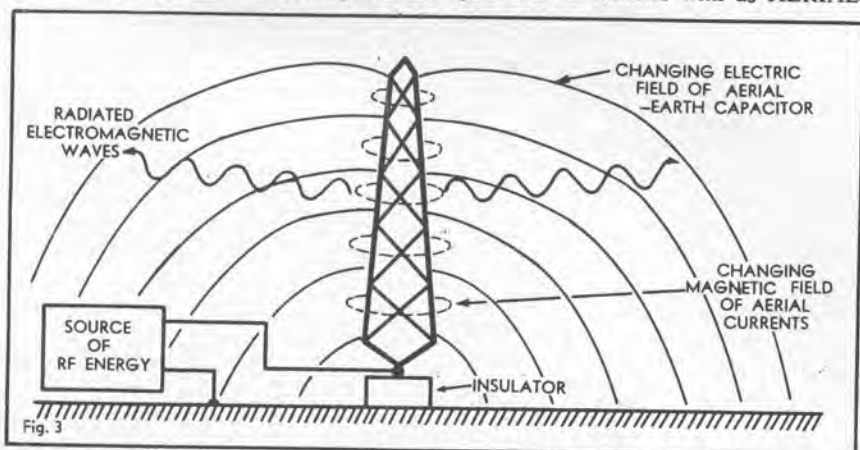

Fig. 3
**Figure 3.** The transmitting radiator or "aerial" is a device specially designed to radiate energy. The aerial system shown here can be seen to combine the features of a capacitor and an inductor. Varying potentials between the aerial and the earth create a varying electric field, while currents in the aerial itself create a varying magnetic field.